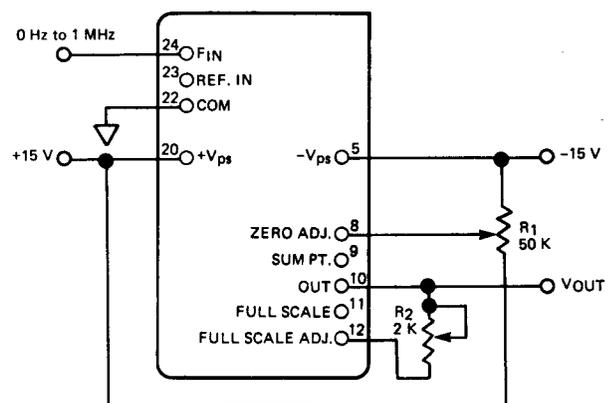

Figure 3. Zero and Full Scale Trim
Pin 11 can be used when accuracy to  $\pm 0.1\%$  F.S. is needed with no external components. Pin 12 is usually used when greater accuracy is required using an external trim, see Figure 3. (Note:  $R_1$  and  $R_2$  should have low value temperature coefficients.)
1. Connect  $F_{in}$  pin to Common and adjust  $R_1$  to provide 0.0000 V at  $V_{out}$ , see Figure 3.
3. Repeat (1) and (2) precise zero and Full Scale set.